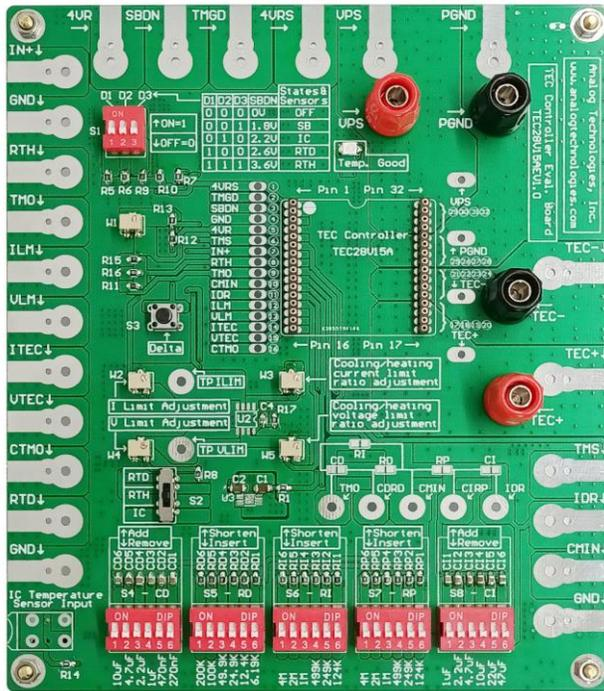
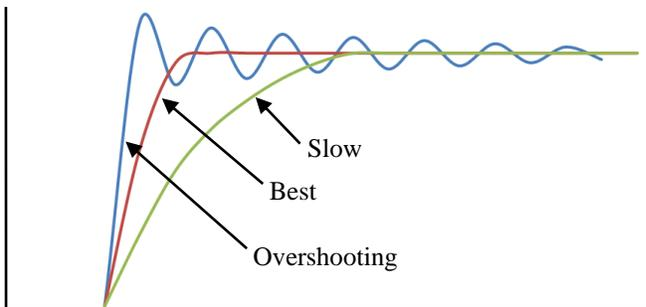
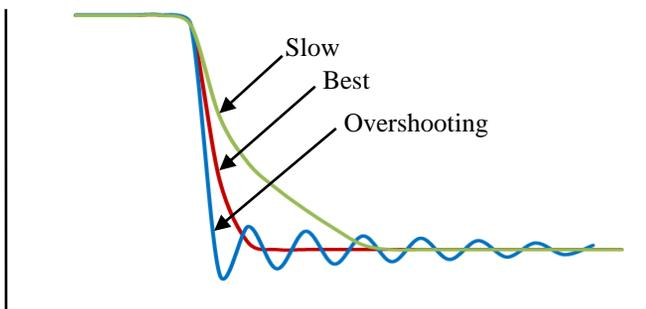

Figure 1. The physical photo of TCE28V15AEV1
Figure 11. Rise Waveforms of IDR
Figure 12. Fall Waveforms of IDR
The TEC28V15AEV1 Evaluation Board is consisted of a complete application circuit for driving a TEC controller. It can set the output current, the output current limit, has an LED for indicating the working status of the controller, has numerous connection pads and terminal connectors for making connections with external components and instruments. Its physical photo of TEC28V15AEV1 is shown in Figure 1.
Hook up the power supply, TEC and thermistor. There are 2 solder pads in the upper right area on the edge for connecting the DC power supply voltages. The connection can be done by clipping or soldering on the pads. Usually the power supply is set from 5V to 28V, a power supply of about having higher voltage than the maximum output voltage. There are also 2 solder pads in the upper right area on the edge for connecting the TEC terminals in the right polarity as indicated onto the board. Connect the thermistor terminals to the board, there is no polarity requirement. On the top of the board, there is the switch bank S1, which is used for adjusting D1, D2 and D3 to achieve different functions, in Table 2. At the same time, adjust the position of S2 with S1. There is an IC port on the bottom left of the edge for IC temperature sensor input. The switch of S3 is used to adjust the compensation network of temperature control loop by inputting a square wave disturbing signal in temperature input point, which enables the system to generate corresponding response waveform. At this time, observe the waveform change by oscilloscope, and adjust and optimize the compensation network of the temperature control loop so as to achieve the best waveform at the same time. Response waveform is achieved by measuring IDR with oscilloscope, as shown in Figure 11 and Figure 12. The compensation network components consist of R_I , R_D , R_P , C_D and C_I , which will be adjusted by S4, S5, S6, S7 and S8. These connections can be done by clipping or soldering on the pads, see Figure 1. Check the evaluation board connections, making sure that they are all correctly connected.
c. To try other values of capacitors not provided by the evaluation board for the capacitors in the compensation network, turn down the capacitor switches, to the “OUT” position, connect the component to the corresponding soldering pads as marked on the evaluation board, see Figure 1.